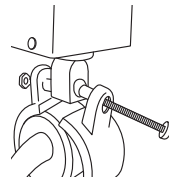

Fig. 3
- Then, while holding the hose clamp in place, snap it onto the piece at the end of the cord. (fig. 3)